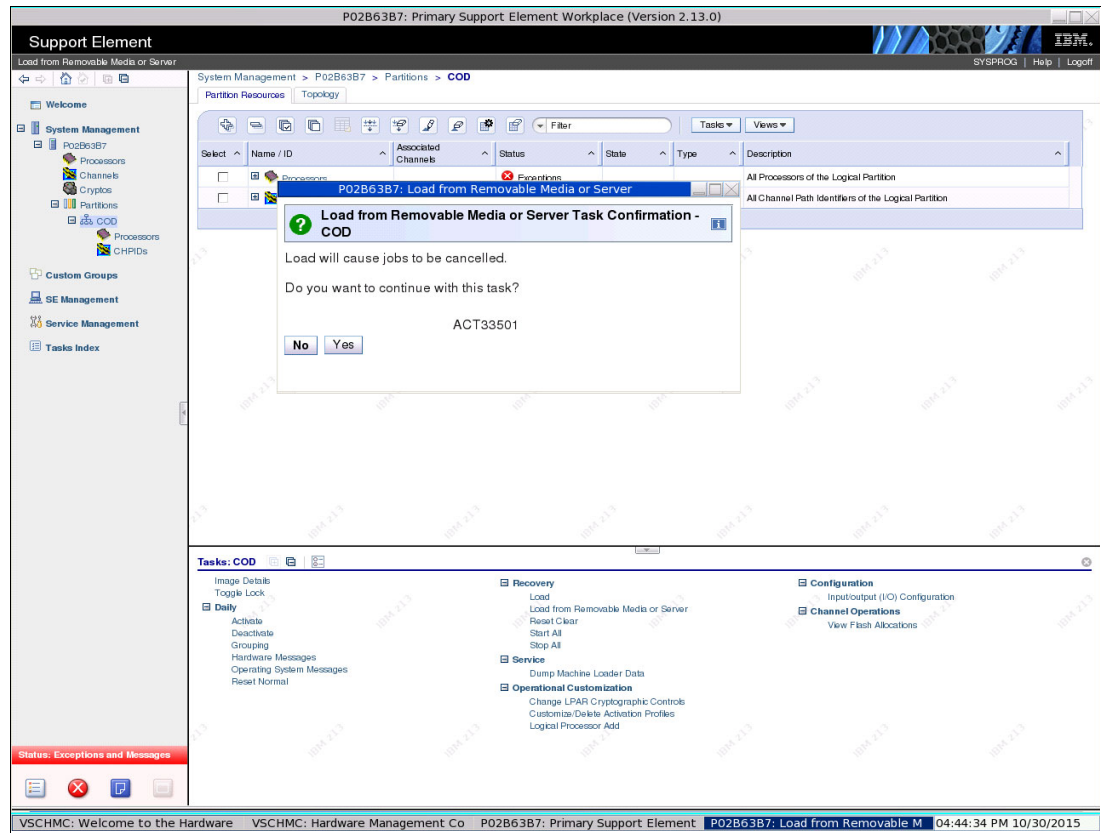

Figure 8-7 Confirmation window
6. A confirmation window opens that indicates that this task is disruptive, as shown in Figure 8-7. We click **Yes** to continue.